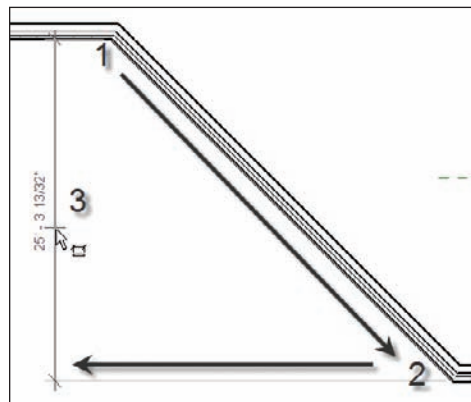

FIGURE 5.17 When you add a linear dimension to an angled wall, you will get a straight dimension.
5. Pick the same spot on the other side end of the wall, as shown in Figure 5.17. When you pick the second corner, the dimension will follow your cursor in a straight direction.
6. Move your cursor to the left approximately 8' past the first point that you picked, and pick the third point to place the dimension (see Figure 5.17).